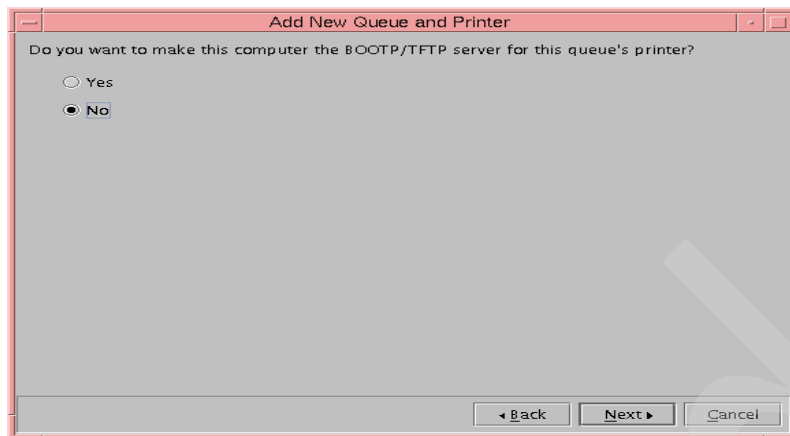

Figure 87. IBM Network Printer - BOOTP/TFTP selection
8. For IBM Network Printers, you should always select **No** when asked if you want to make this computer a BOOTP server, as shown in Figure 87.